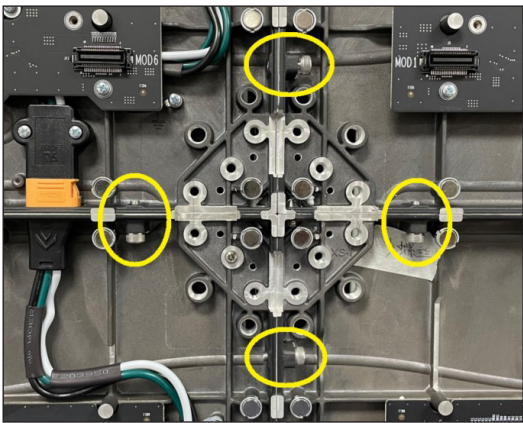

Figure 23: Stitch Bolt Locations
7. Install the panel side stitch bolts across the bottom row of panels while ensuring the machined tops, bottoms, and faces are all flush to each other. Use a 4 mm key to tighten the stitch bolts. Refer to **Figure 23**.